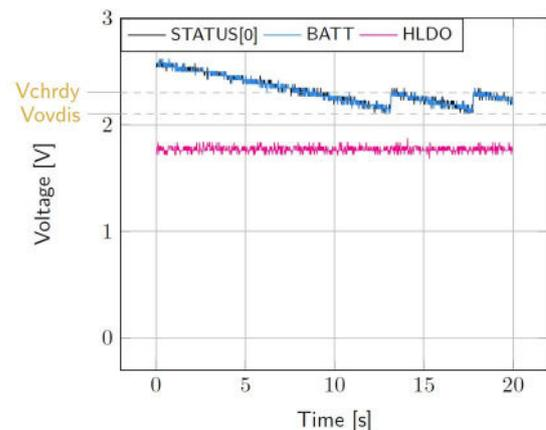

Figure 5: Switching from **SRC** to the primary battery
- BATT**: Voltage decreases as the system consumes the power accumulated in the storage element. The voltage reaches **Vovdis** and then rises again to **Vchrdy** as it is recharged from the primary battery (see Figure 5).
- STATUS[0]**: Never de-asserted as the LDOs are still functional (see Figure 5).
- HLDO**: Stable and not affected by switching on the primary battery (see Figure 5).